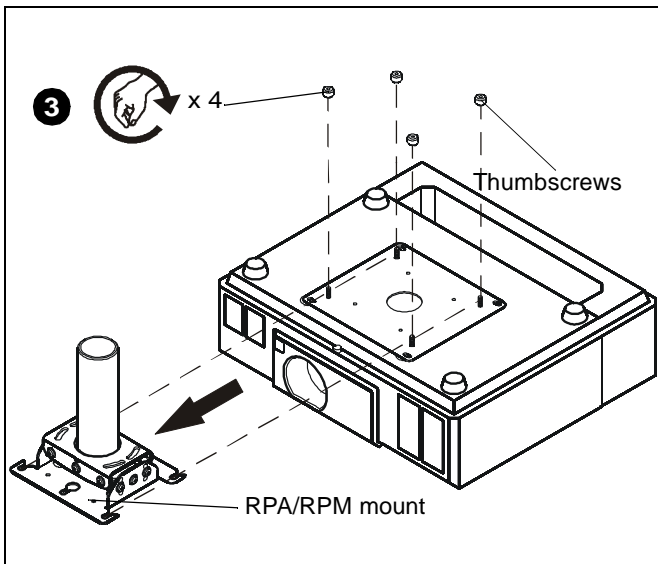

Figure 6
2. Carefully slide projector forward until it engages in the RPA/RPM mount. (See Figure 6)